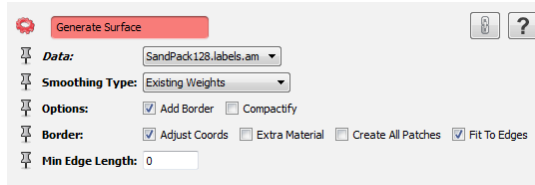

Figure 7.11: *Generate Surface* module parameters.
- Connect a *Generate Surface* module to the label image (see Figure 7.11).